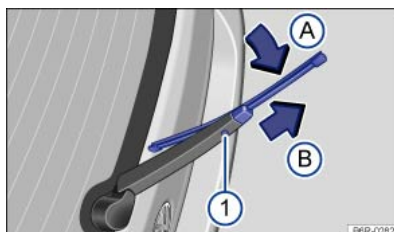

Fig. 203 Changing the rear window wiper blade.
- Press and hold the release button ⇒ Fig. 203 ①.
- Tilt the wiper blade in the direction of the wiper arm ⇒ Fig. 203 (arrow ②) and pull it off in the direction of the arrow ② at the same time. You may need to use some force to do this.
- Insert a new wiper blade with the **same length and design** onto the wiper arm in the opposite direction of the arrow. Push it on until it engages ⇒ Fig. 203 ③. The wiper blade must be in the folded back position ⇒ Fig. 203 (arrow ④).